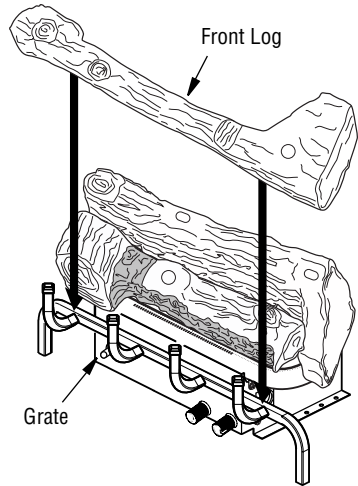

Figure 22 - Installing Front Log
3. Place front log (#3) onto grate as shown in **Figure 22**.